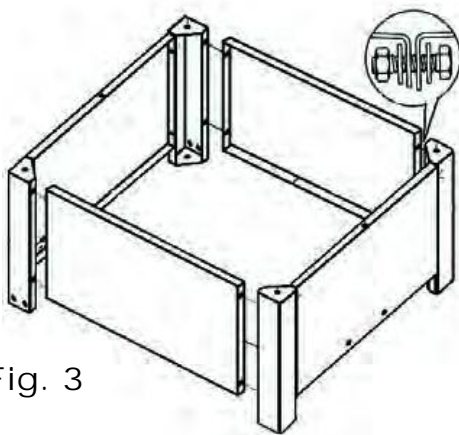

Fig. 3
a) Assemble the base frame as shown (Fig. 3)